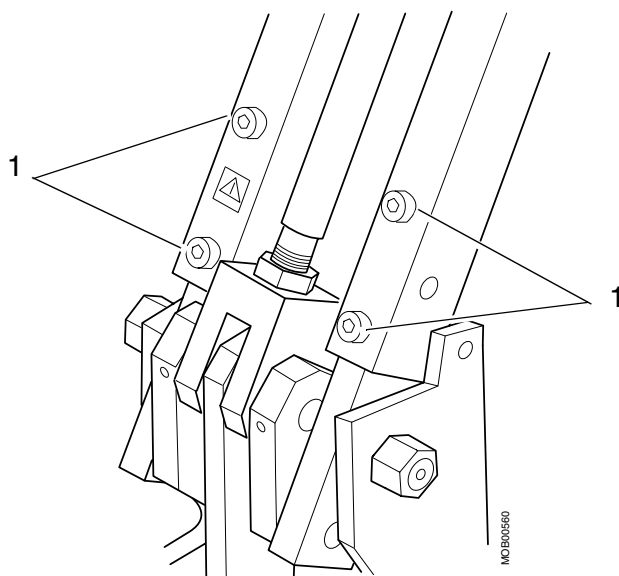

Fig. 26 Removing the arm
36. Remove the arm system by unscrewing four screws (pos. 1 / Fig. 26).
4. Remount the arm system (Fig. 26). Use loctite on the screws for proper fastening.